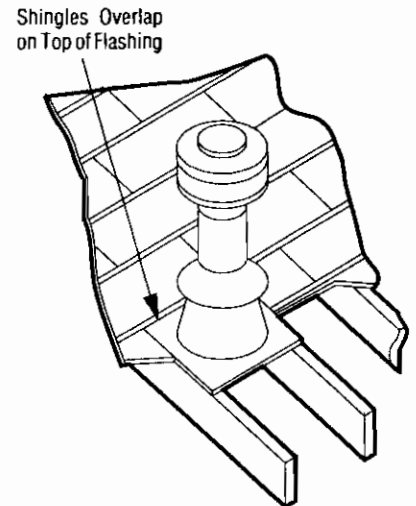

Figure 23
**E.** Slip the flashing Dura Vent Part No. 943 (0/12 to 6/12 Roof Pitch) or Dura Vent Part No. 943S (7/12 to 12/12 Roof Pitch) over the Pipe Section(s) protruding through the roof. Secure the base of the Flashing to the roof with roofing nails. Insure the roofing material overlaps the top edge of the Flashing as shown in Figure 23. Verify that you have at least the minimum clearance to combustibles at the roofline.